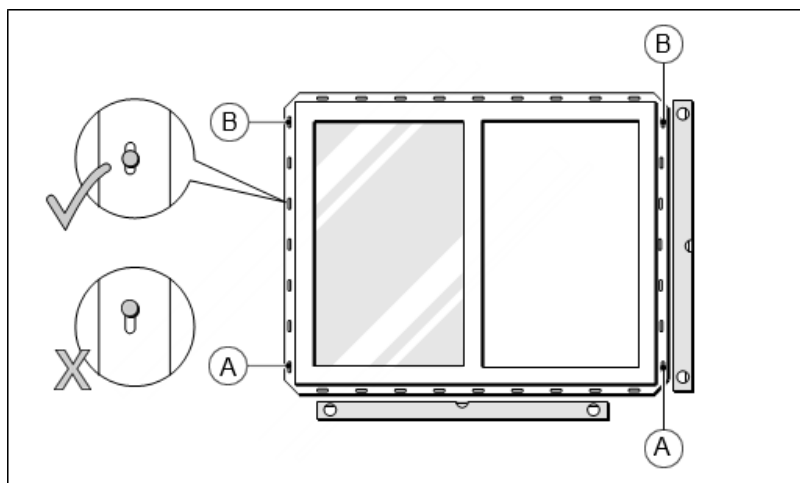

Figure 2-13. Where to fasten the flanges – exterior view
- 4.6 Use a straight edge to ensure the frame is straight on all four sides. Fasten the flange approximately every second slot. **DO NOT nail or screw too tight. DO NOT nail the top flange to the wall.** See fig. 2-13.